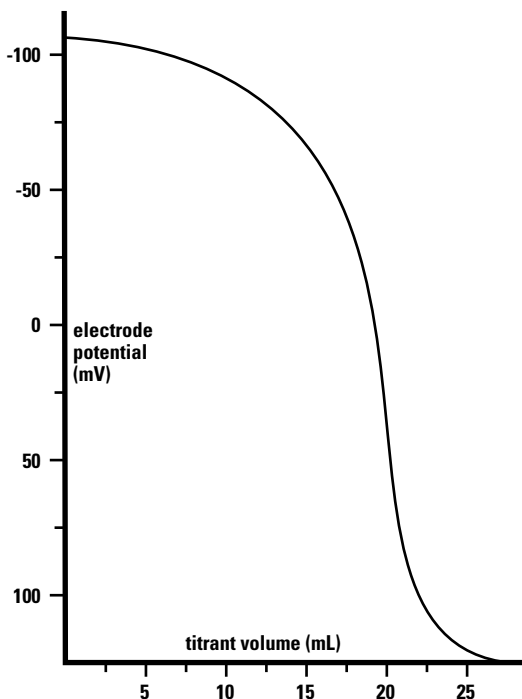

Figure 3 Titration of 0.114 M F^- with 0.1 M $La(NO_3)_3$
3. Using a 10.0 mL burette, add increments of lanthanum nitrate and plot the electrode potential against mL of lanthanum nitrate added. The endpoint is the point of the greatest slope. See **Figure 3**. Alternately, use a first derivative calculation or an on-line titration calculator to determine the end point. Record the endpoint, V_{t0} . Rinse the electrode and blot dry..